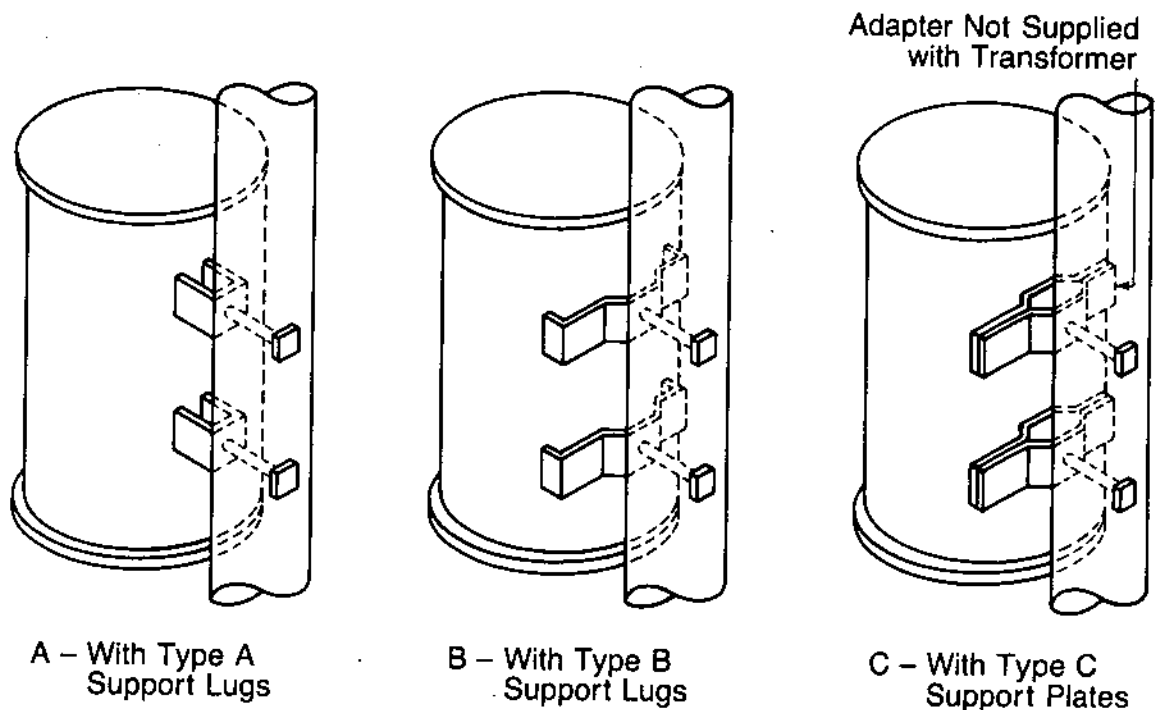

Fig. 54 – Pole-Type Transformer Mounting
1. *Pole type* transformers are provided with mounting brackets (hanger lugs) depending on their weight. Figure 54 illustrates the three different kinds of support lugs required by ANSI Standards C57.12.20 for different kVA ratings.